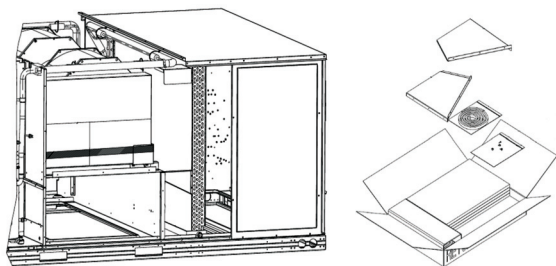

Fig. 17 — Barometric Hood Box Parts Location
2. Remove the side panels located in the hood parts box (see Fig. 17).